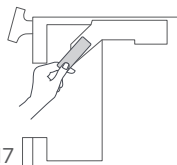

Figure 17
3.1.4 Use a wet sponge or towel to clean the ice exit chute. Be careful of the sharp corners to avoid injuring your fingers (see Figure 17).